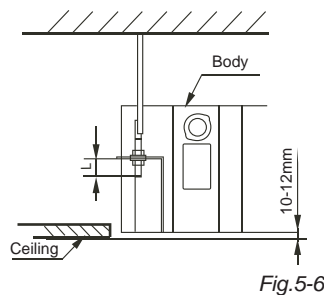

Fig.5-6
- Adjust the position to ensure the gaps between the body and the four sides of ceiling are even. The body's lower part should sink into the ceiling for 10~12 mm. (refer to fig.5-6)
- In general, L is half of the screw length of the installation hook. (refer to fig.5-6)